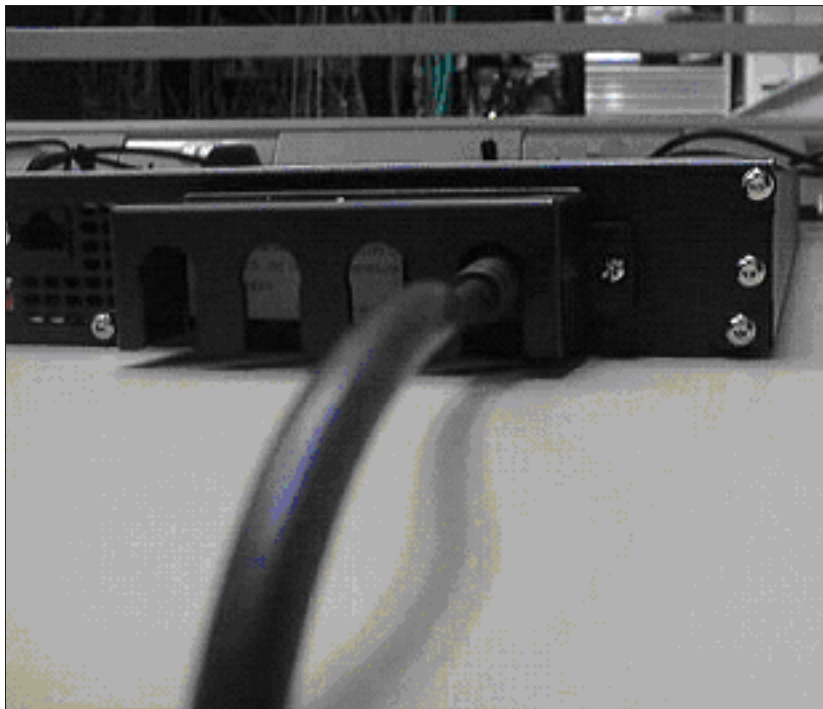

Figure 25. 2145 UPS-1U power cable retention bracket
5. Secure the bracket in place with one screw on each side, as shown in Figure 25.